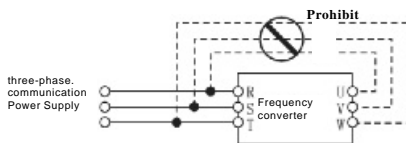

Figure 1-2
- It is strictly forbidden to connect the AC power supply to the output terminals U, V, W of the inverter, otherwise the inverter will be damaged, as shown in Figure 1-2.